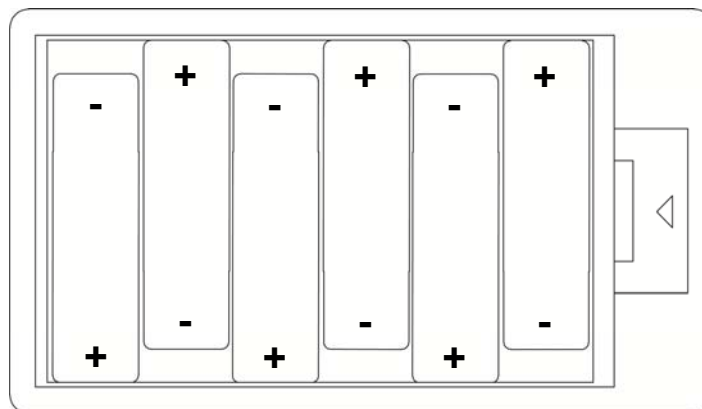

Figure No. 6
6. Install the new 6 "AA" size batteries in the holder, noting the polarity markings located in the battery holder. Refer to Figure No. 6.